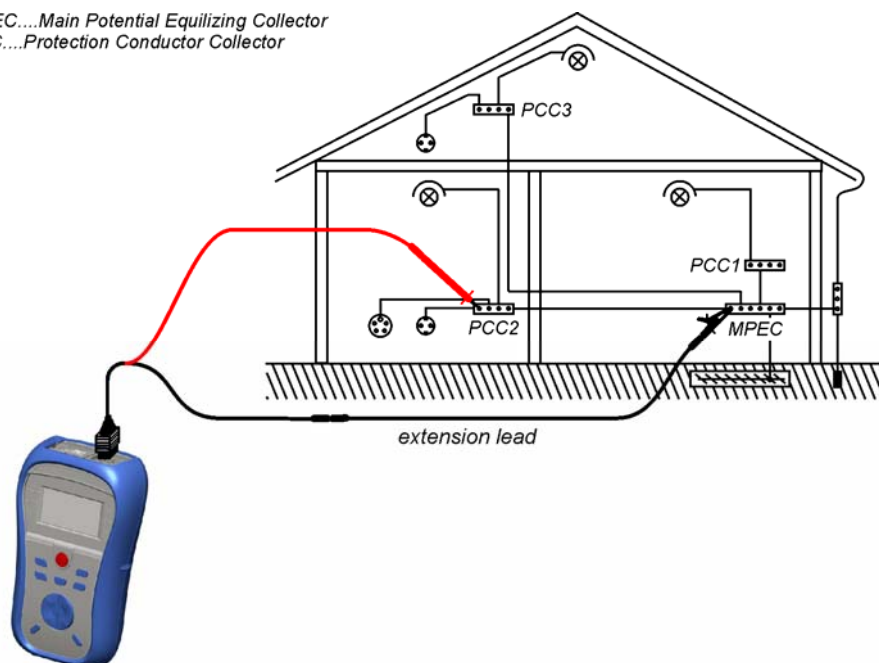

Figure 5.5: Connection of universal test cable plus optional extension lead
- ❑ **Connect** the test leads to the appropriate PE wiring (see *figure 5.5*).